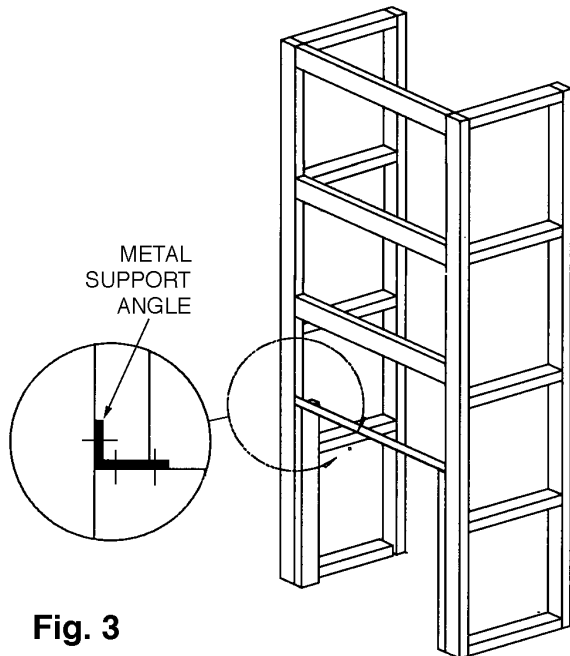

Fig. 3
4. Frame up the **enclosure** using nominal 90 by 45 dressed timber, verifying that it will be on the flue centreline. (See Fig. 3). The overall depth of the frame should be $(587 - t)$ mm, where 't' is the cladding thickness. The distance between the trimmers (where the assembled shielding box will fit), should be 875mm. The overall width of the enclosure frame shown is the minimum required, but if desired it may be larger. The trimmers do not run the full height, but end 808 mm above the finished top face of the floor protector (or 808 mm above the top of the bearers if the heater is 'elevated'). Refer to paragraph 6 for floor protector thickness options and the advantage of 'elevated' installations. Fix the metal support angle across the tops of the trimmers to provide support and fixing for the front heat resistant cladding.